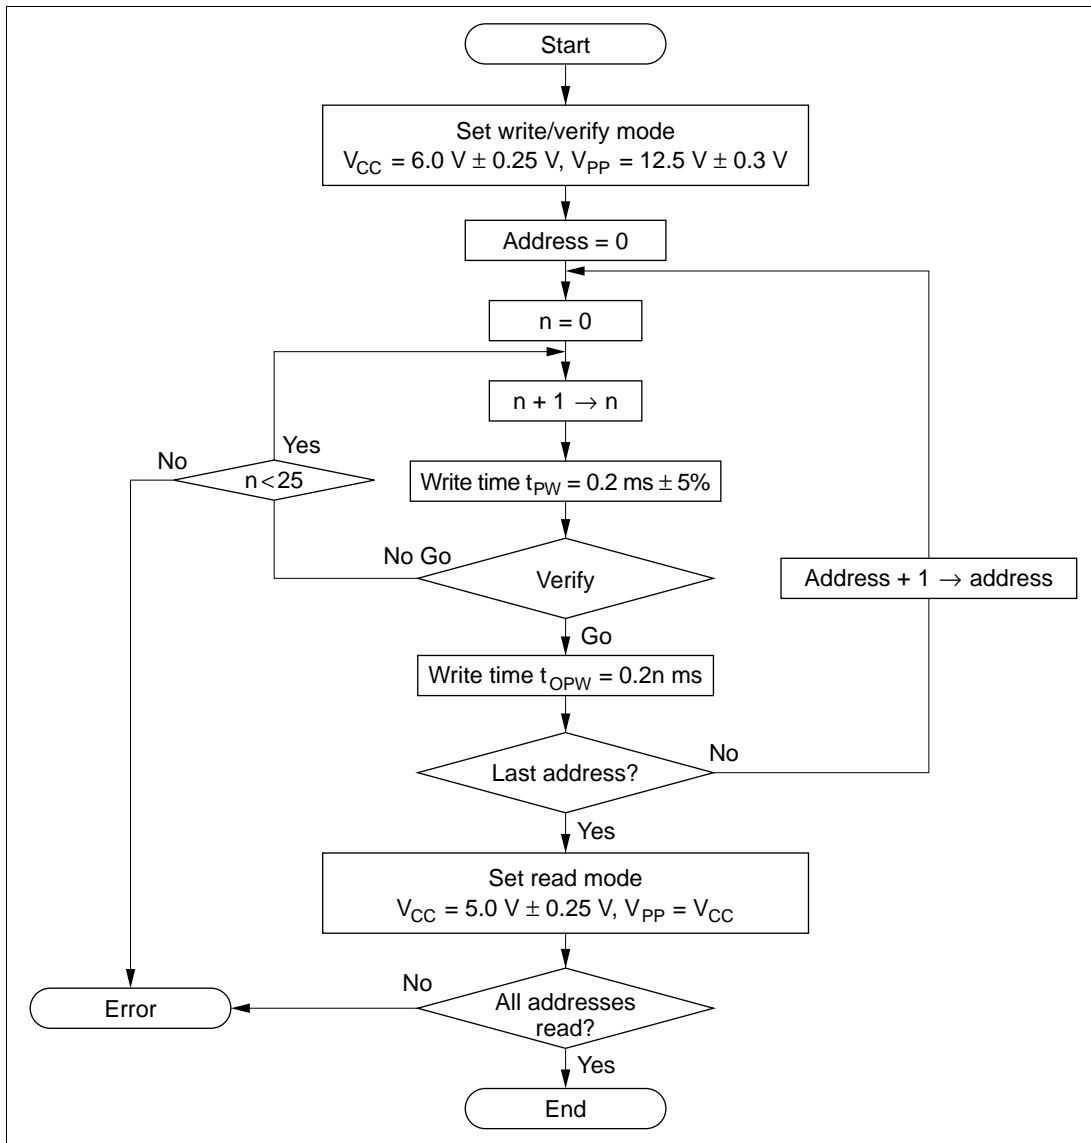

Figure 6.8 High-Speed, High-Reliability Programming Flow Chart
An efficient, high-speed, high-reliability method is available for writing and verifying the PROM data. This method achieves high speed without voltage stress on the device and without lowering the reliability of written data. The basic flow of this high-speed, high-reliability programming method is shown in figure 6.8.
- t_{OPW} is defined by the value given in figure 6.8 high-speed, high-reliability programming flow chart.